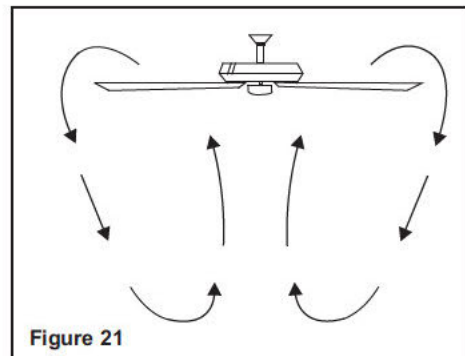

Figure 21
**Cool weather (Reverse)** An upward airflow moves warm air off the ceiling area as shown in Figure 21. This allows you to set your heating unit on a lower setting without affecting your comfort.